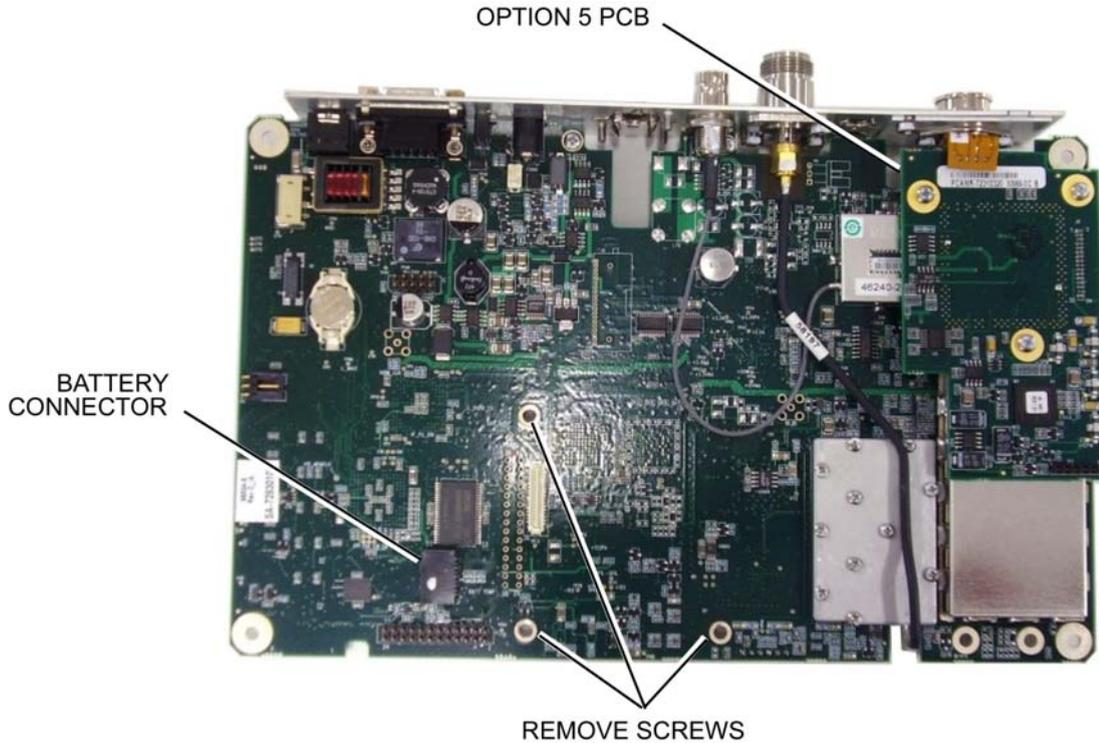

Figure 3-4. S412D Main PCB
1. Remove the 2 screws at the bottom of the main PCB, one screw in the center, and the 5 wire battery cable. (refer to Figure 3-4 below for locations).
5. The Option 5 PCB must be removed if the main PCB, the spectrum analyzer, or Option 5 has failed. Unplug the 4 pin connector on the Option 5 PCB that connects to the front panel (refer to Figure 3-4). Remove the 3 screws holding the option 5 PCB and remove the PCB. It will be transferred to the replacement main PCB. Recalibration is not required after the replacement of Option 5.